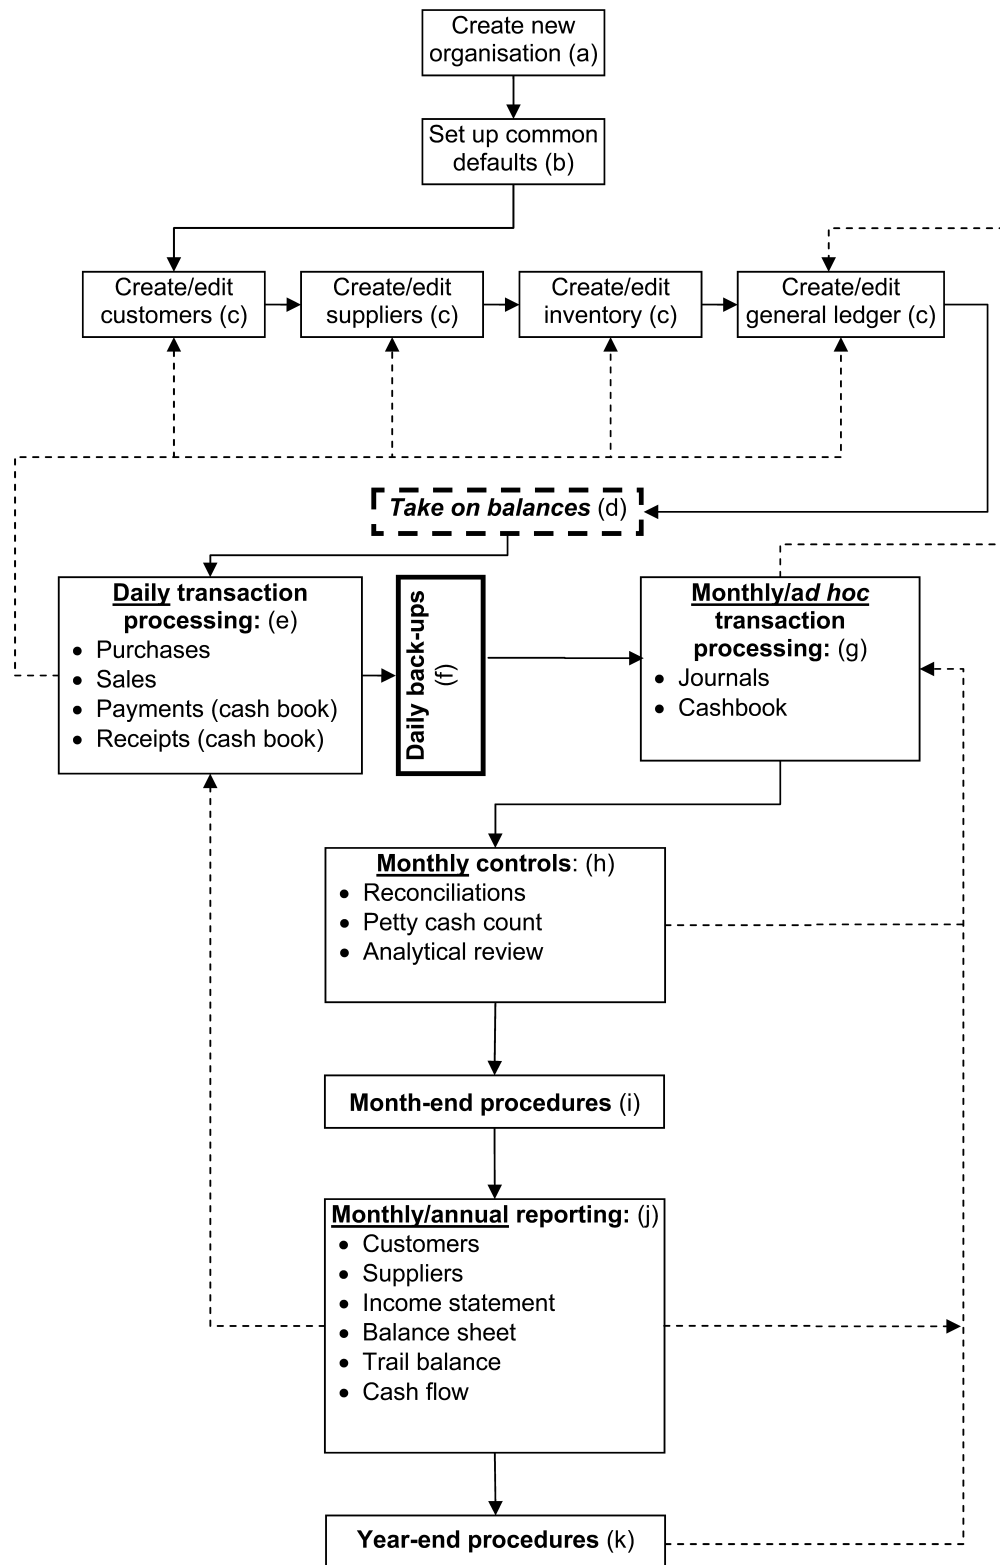

FIGURE 7.3: Accounting transaction processing in an organisation
Refer to figure 7.3 throughout the following discussion:
- If presented with figure 7.3, would you be able to fill in the missing information in the figure?